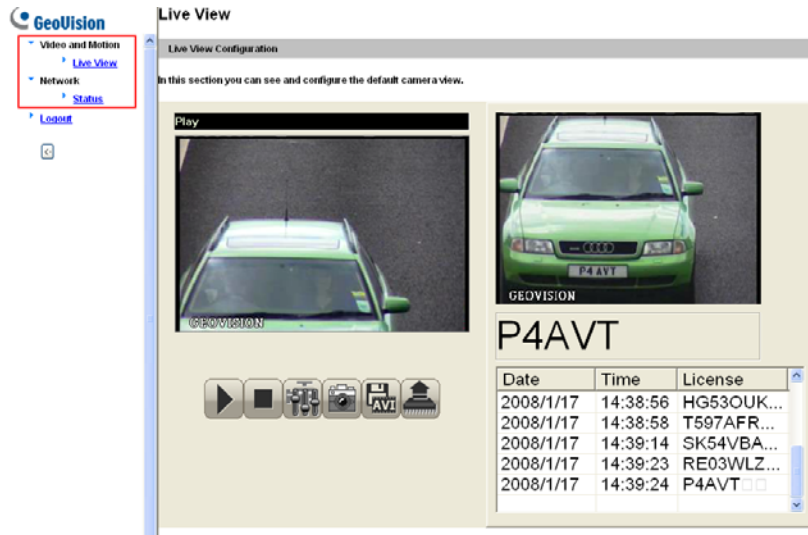

Figure 3-2
4. A video image, similar to the example on Figure 3-2, is now displayed in your browser.